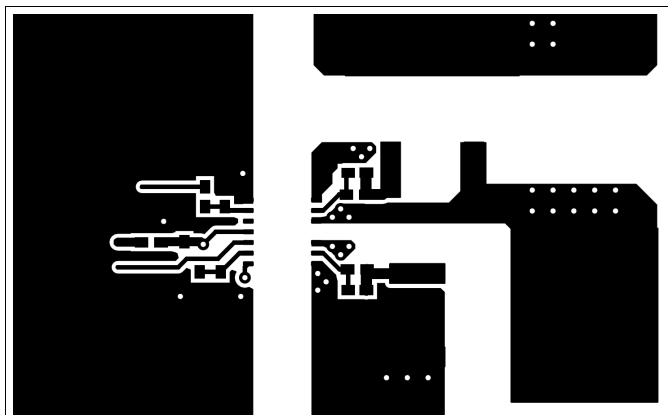
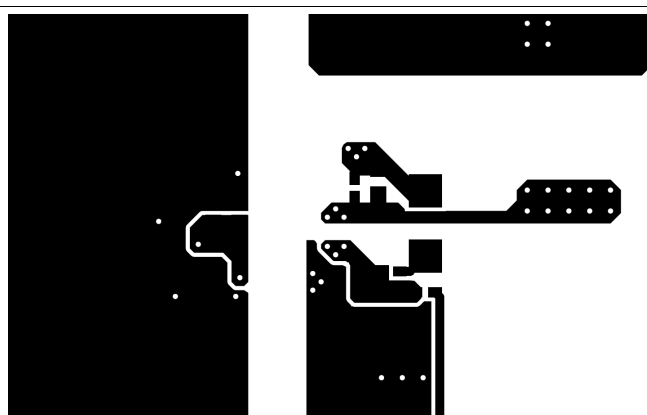

Figure 44. Top Layer Traces and Copper
Figure 45. Bottom Layer Traces and Copper
- Increasing the PCB copper connecting to VDDB, VSSA and VSSB pins is recommended, with priority on maximizing the connection to VSSA and VSSB (see Figure 44 and Figure 45). However, high voltage PCB considerations mentioned above must be maintained.
Figure 44 and Figure 45 shows top and bottom layer traces and copper.